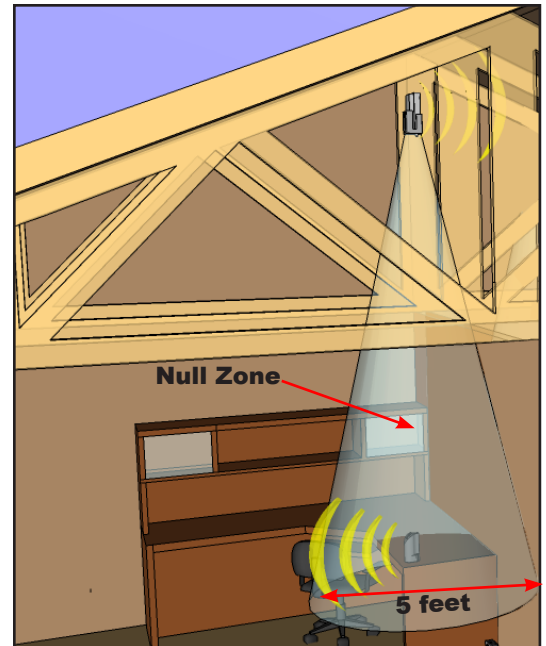

Figure 7-2: BETTER: Rafter Mounting Option
1. Select a location in the buildings rafters where the outside Cradle Antenna can be mounted directly above the Desktop Antenna with at least 15 feet vertical separation. See Figure 7-2 on page 6.